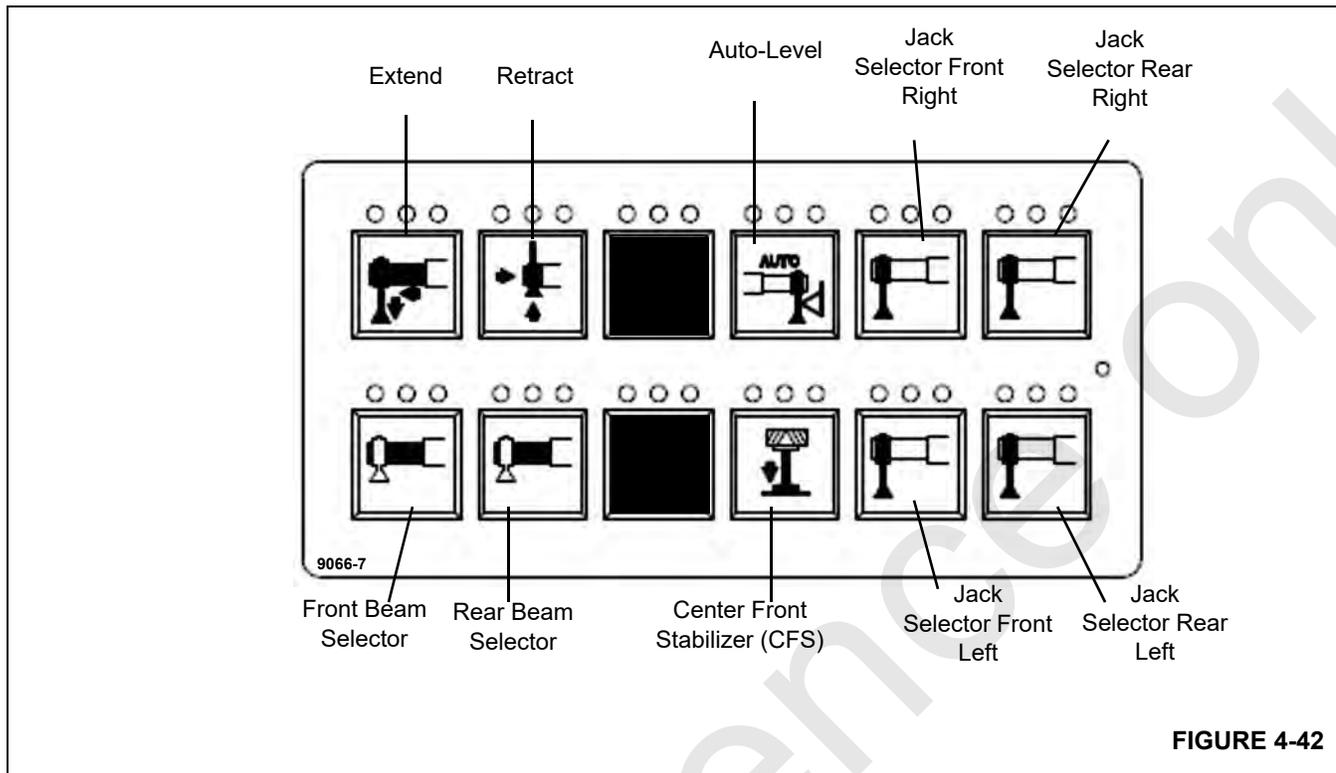

FIGURE 4-42
On the Outrigger Keypad(s), to activate or deactivate Cribbing Mode (Figure 4-42), push the Center Front Stabilizer (CFS) push button twice.
6. Retract the main front outrigger jacks off the ground. by pushing the **Retract** push button and the **Jack Selector** push buttons together to move the main front outrigger jacks off the ground (Figure 4-42).
8. Extend the main front outrigger jacks so that the Center Front Stabilizer (CFS) is unloaded and comes off the ground/cribbing by pressing the Extend push button and both the Left and Right Front Jack Selector push buttons together (Figure 4-42).
11. Extend the CFS until movement ceases by pressing the Extend push button and the Center Front Stabilizer push buttons together (Figure 4-42).